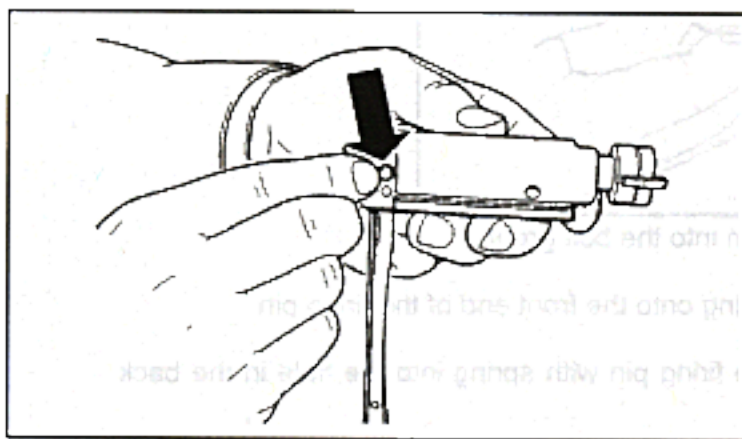

**Figure 33.** Installing the firing pin with firing pin spring into the bolt group
- D. **Install firing pin with spring** – Insert the firing pin with spring into the hole in the back end of the bolt carrier (**Figure 33**).